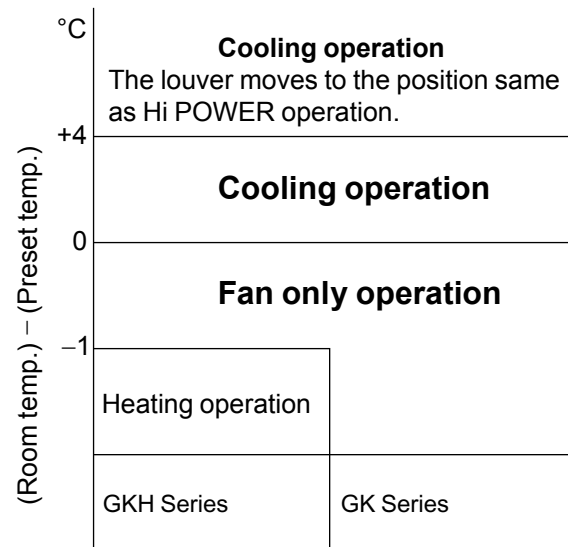

Fig. 7-2-9
- (1) One of 3 operations (Cooling, Fan only or Heating) is selected according to difference between the preset temperature and the room temperature at which the automatic operation has started, as shown in Fig. 7-2-9. The Fan only operation continues until the room temperature reaches a level at which another mode is selected.
- (2) Temporary Auto
When the [RESET] button on the indoor unit is pushed, the preset temperature is fixed at 24 °C and the indoor unit is controlled as shown in Fig. 7-2-9.